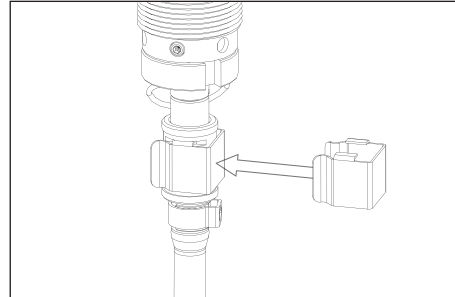

Fig. 8.3 Installing the securing clip
7. Secure the coupling using the securing clip supplied with the water heater (see fig. 8.3). **PLEASE NOTE:** the clip must click around the coupling's house nicely. Check whether the connection has been made correctly by gently pulling on the hose.